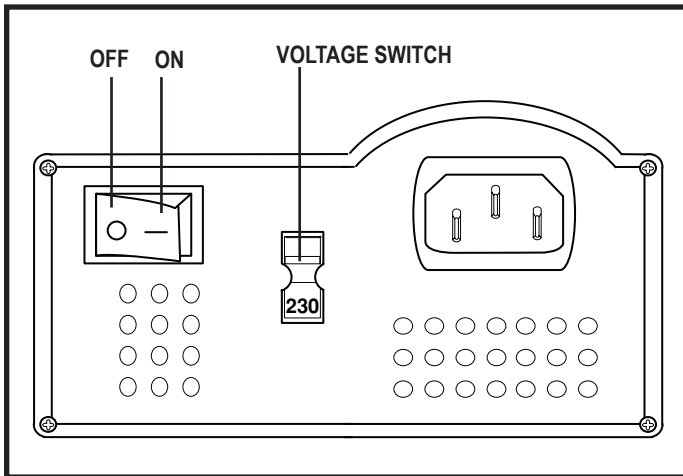

Figure 10. Charger On/Off and Voltage Switches
The off-board charger supplied with your scooter is equipped with a 115/230 voltage switch. Confirm that this switch is in the proper position for your locality. If you are not sure what the voltage is in your country, contact your local electricity provider before inserting the charger power lead plug into your electrical outlet. If the setting is incorrect, the charger will not function properly. Slide the voltage switch to the appropriate position. **See figure 10.**
4. Make sure that the charger's on/off switch is in the OFF position. **See figure 10.**
7. Turn the charger on. **See figure 10.** We recommend that you charge the batteries for 8 to 14 hours.